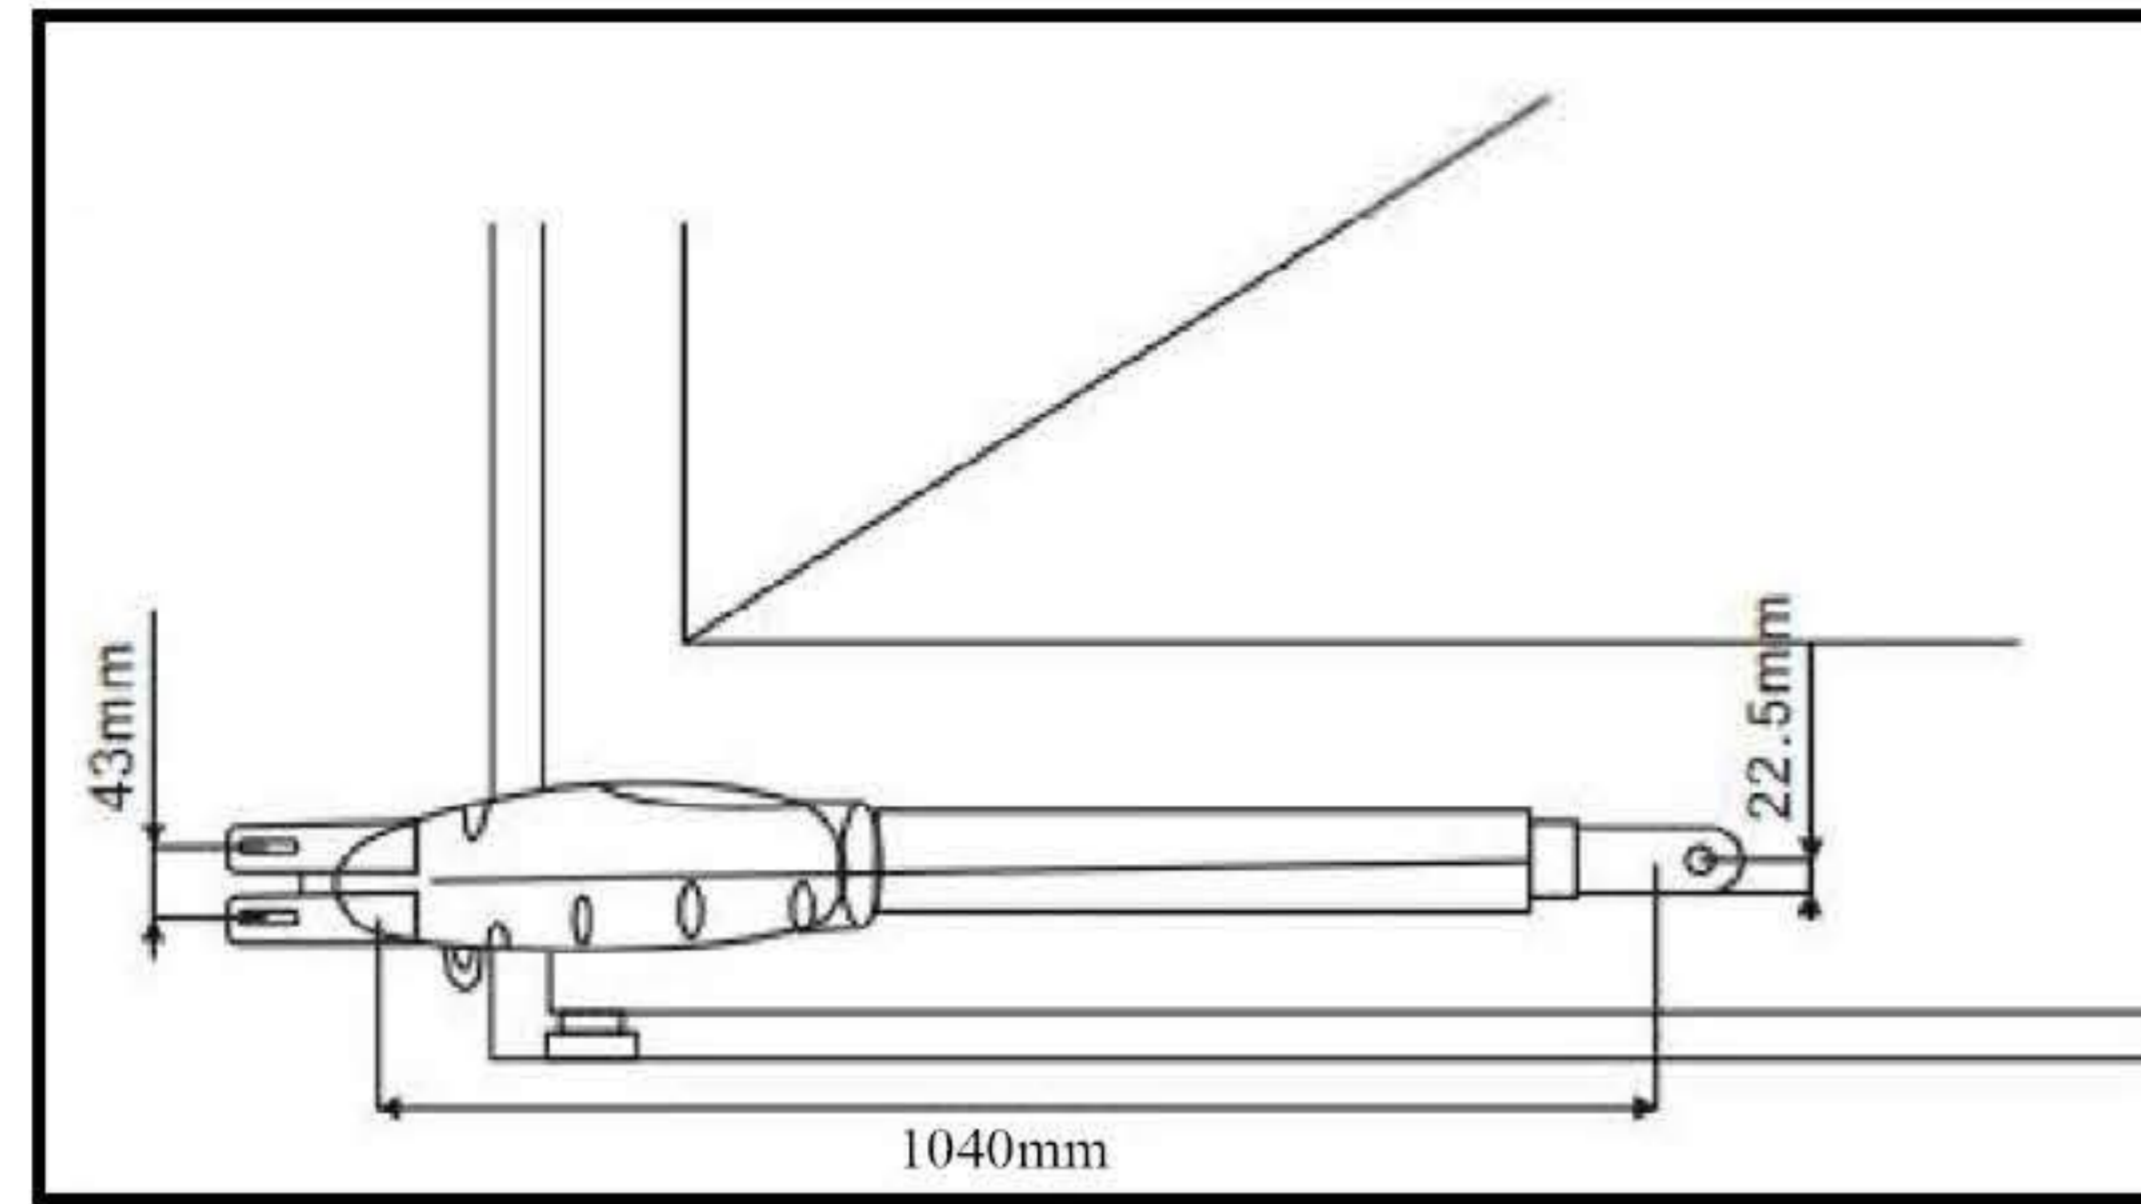

Figure 11
10) Refer to Figure 11, the distance between front plate of the motor and rear plate is 798mm, the difference in height is 22.5mm